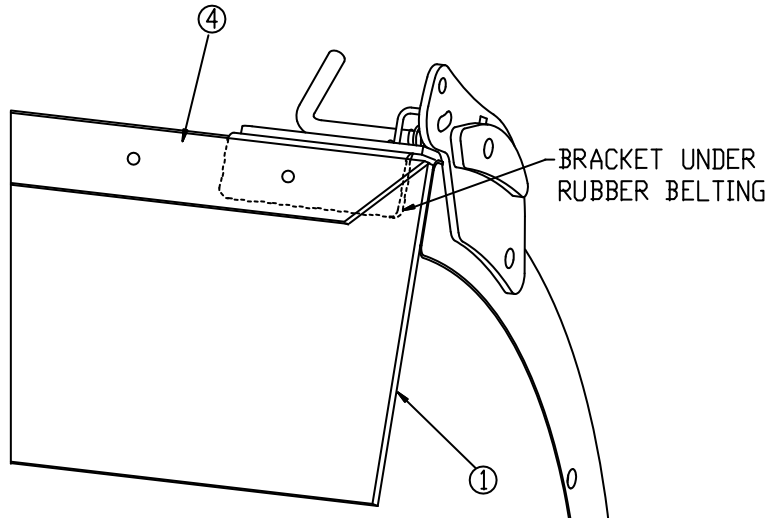

Figure 12. Blade Wing Bracket Installed on Blade G10614
- 2) Rubber Belting (1) must be placed over the Blade Wing Bracket as shown in Figure 12.
- 3) Place Metal Strap (4) on top of Rubber Belting (1) and use the hardware provided to secure Rubber Belting (1) and the Metal Strap (4) to the blade.